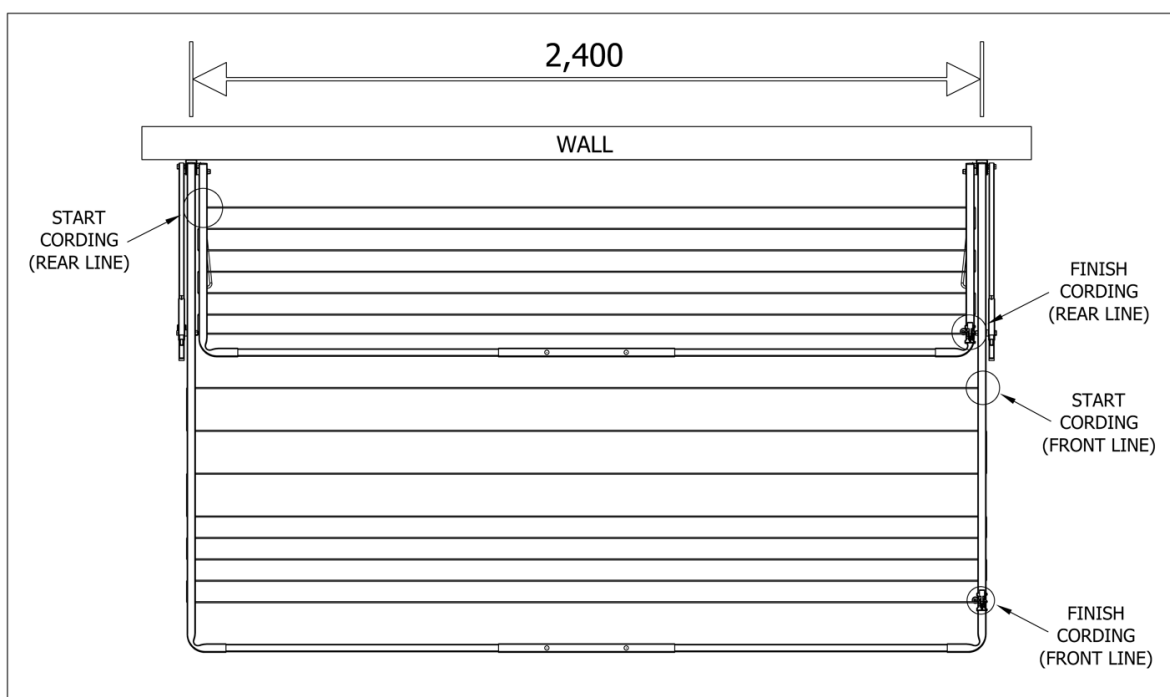

Fig 1. Addaline 35 installed to wall, cord start and stop positions.
9. Cord the rear line starting at the rear left-hand hole, tie a knot in the cord to stop it pulling through. (Fig.1)
10. Working across and toward the front of the clothesline finish at the Line Tension Lock (L.T.L.) front right. (Fig.1)
11. Cord the front line starting at the 8th hole back from the front right-hand side, tie a knot in the cord to stop it pulling through. (Fig.1)
12. Working across and toward the front of the clothesline finish at the Line Tension Lock (L.T.L.) front right. (Fig.1)
10. Cord the rear line starting at the rear left-hand hole, tie a knot in the cord to stop it pulling through. (Fig.1)
11. Working across and toward the front of the clothesline finish at the Line Tension Lock (L.T.L.) front right. (Fig.1)
12. Cord the front line starting at the 8th hole from the front right-hand side, tie a knot in the cord to stop it pulling through. (Fig.1)
13. Working across and toward the front of the clothesline finish at the Line Tension Lock (L.T.L.) front right. (Fig.1)